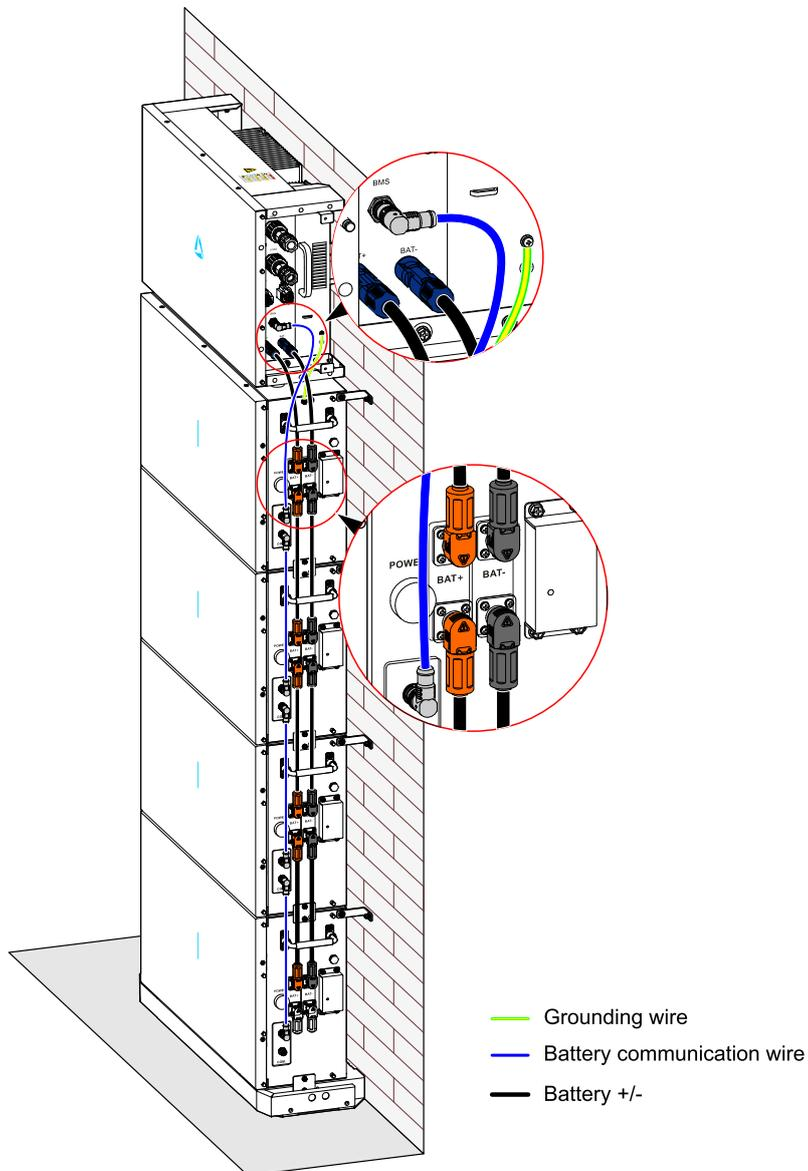

Figure3-27 Inner connection diagram
- Step 6 Connect the wires of the inverter and battery packs, as shown in Figure3-27.